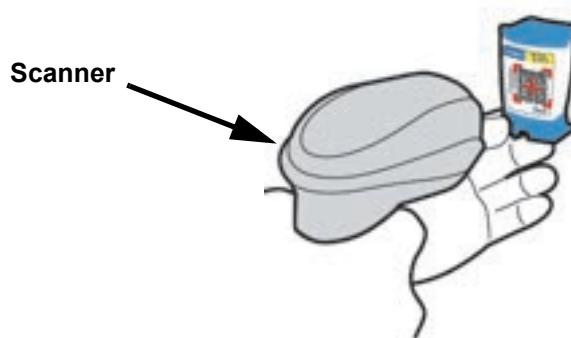

Figure 5-18. Scanning a Cartridge Barcode
Using the hand-held scanner is similar for all scanning operations, such as scanning the Patient ID, the Sample ID and the cartridge barcode, although this section describes the scanning of the cartridge barcode. See Figure 5-18.
1. Scan the barcode by holding the scanner about 8 to 10 inches from the barcode, aligning the laser on the scanner to the barcode image. Figure 5-18 shows a cartridge barcode being scanned.